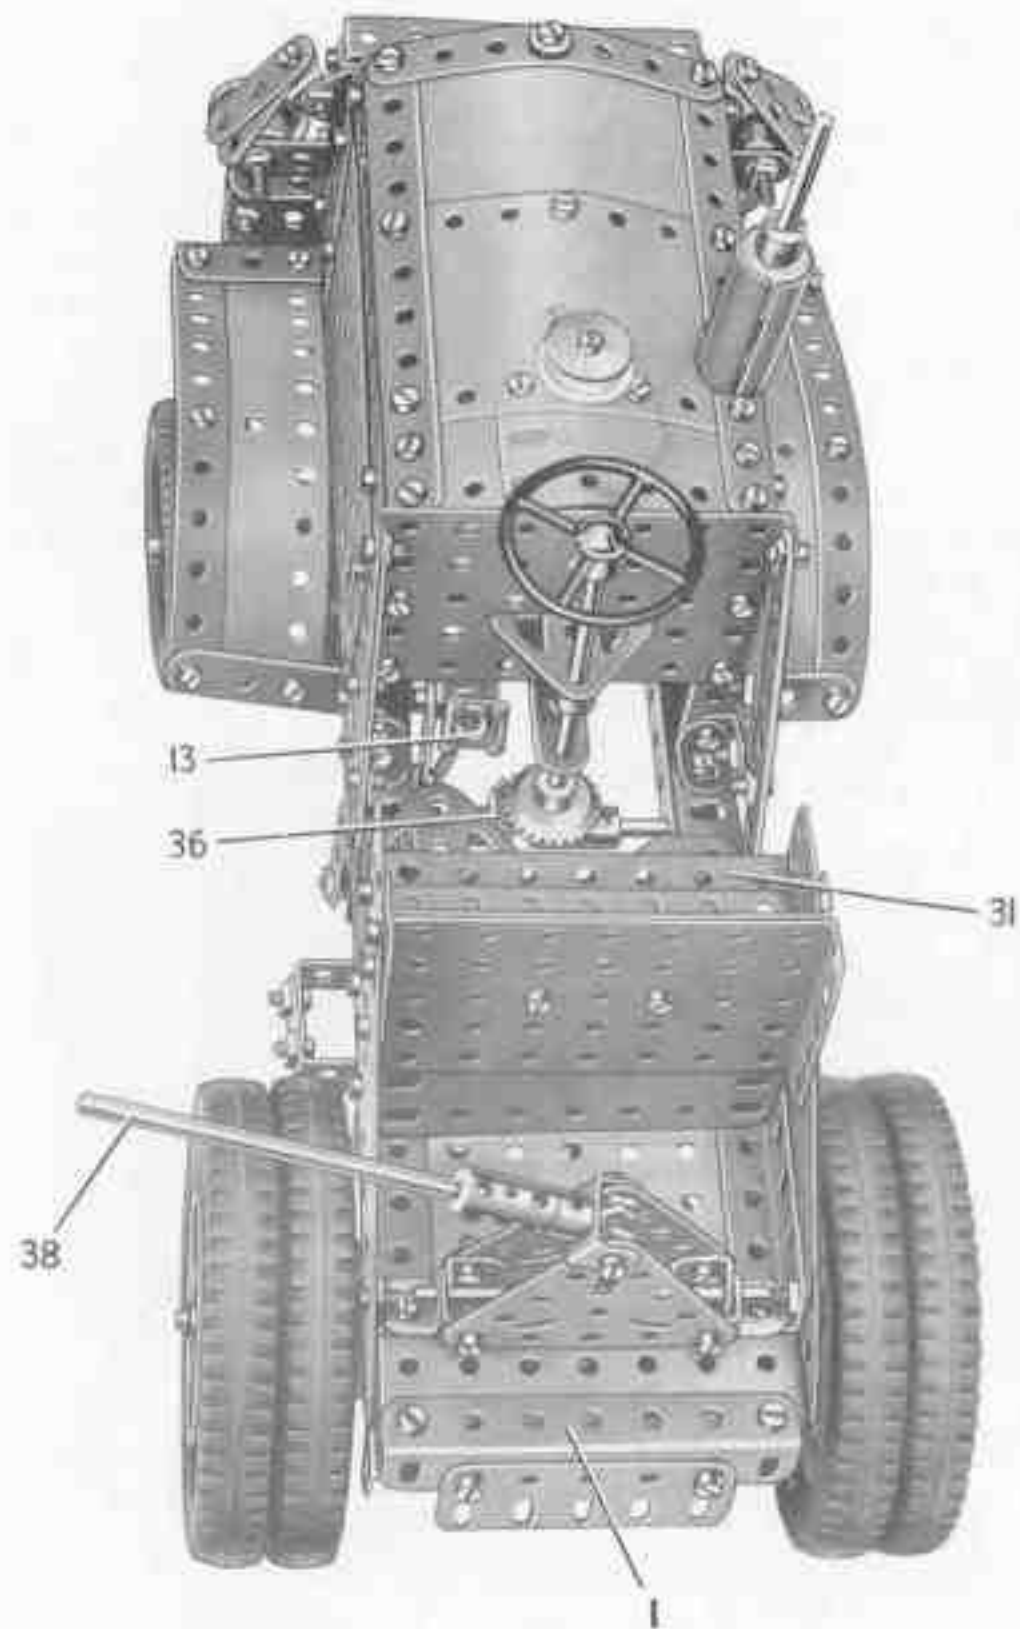
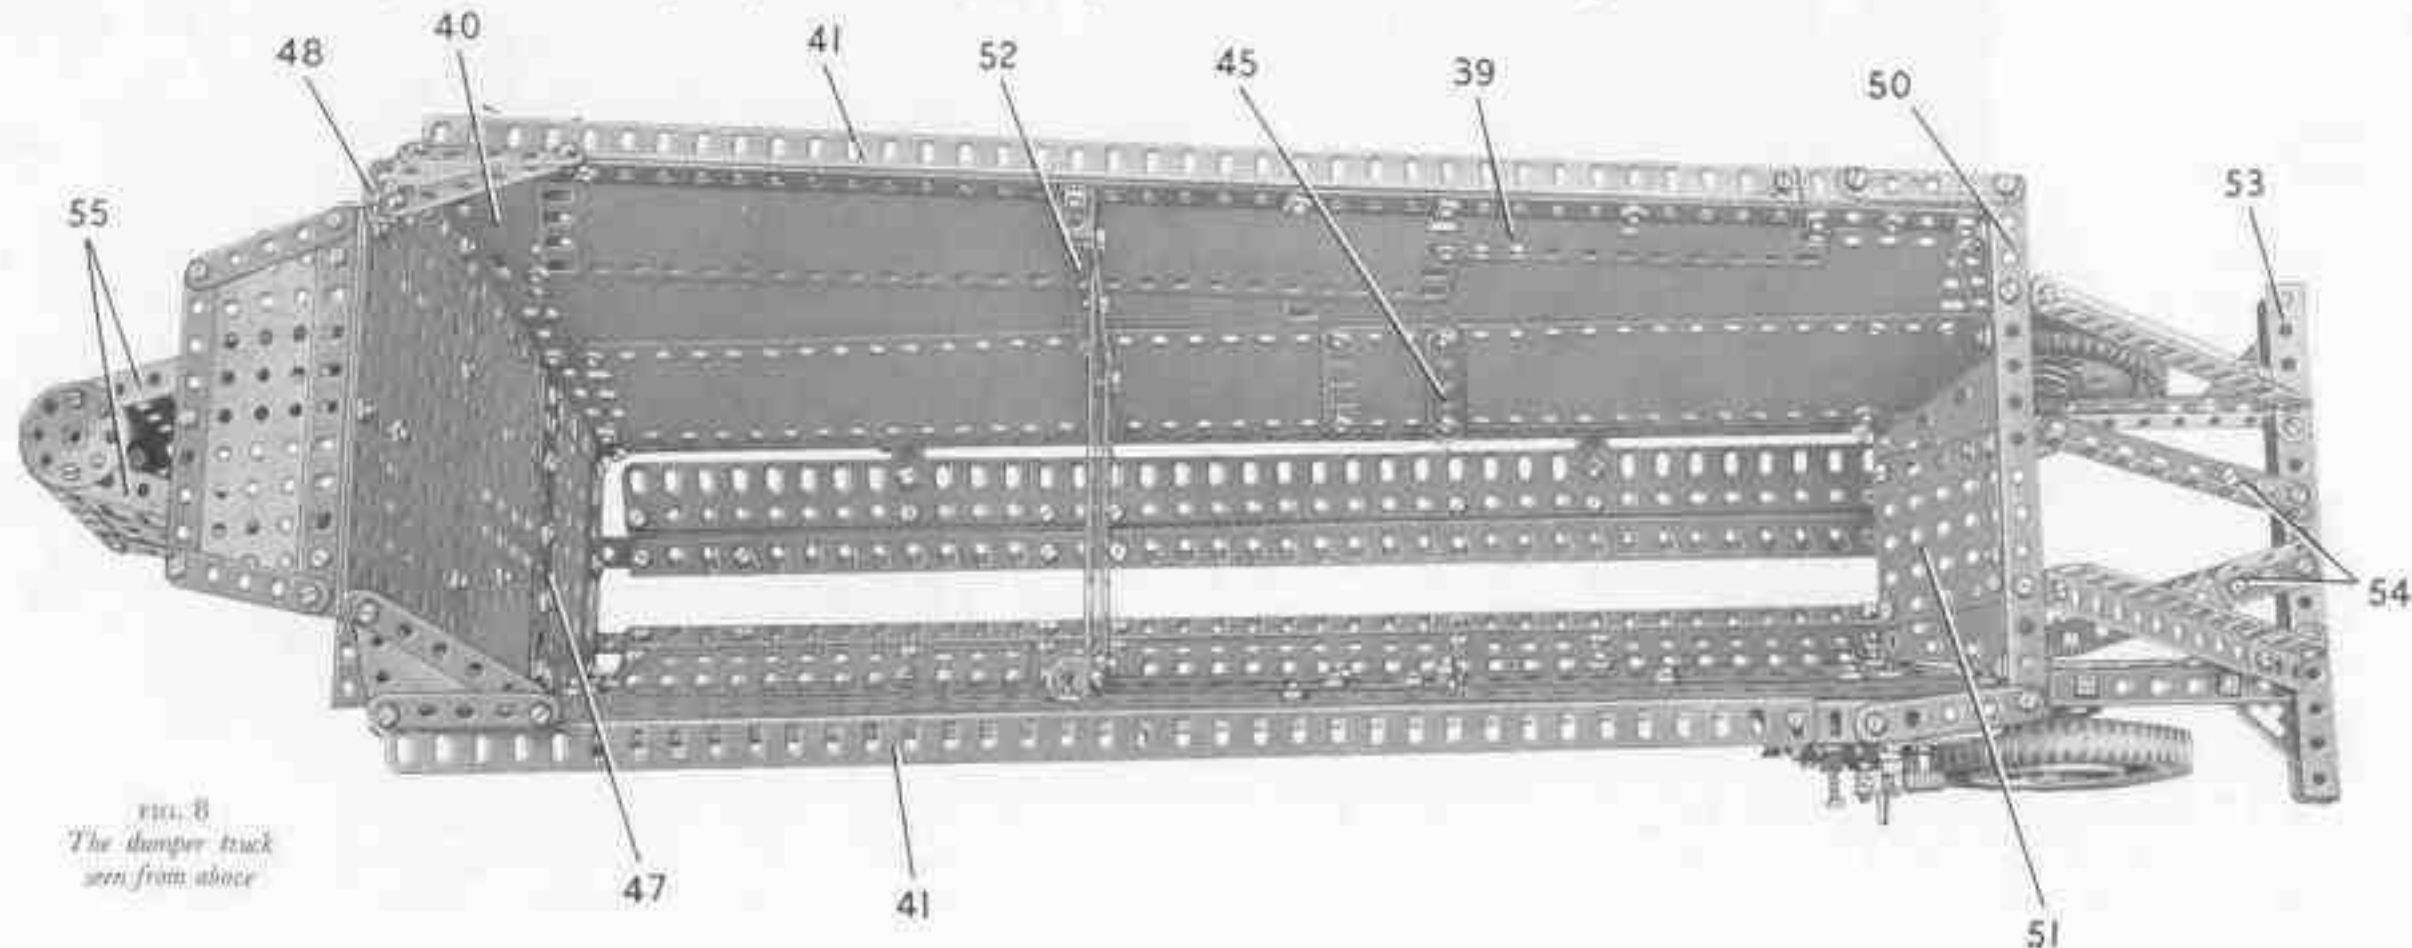

FIG. 5
FIG. 8
The clutch is disengaged by pressing a pedal (13) (Fig. 5), formed by a Slide Piece on a  $4''$  Rod. A Collar is fixed on this Rod immediately below the Slide Piece, and a  $1\frac{1}{2}''$  Strip (14)
The top of the bonnet is filled in by two  $3\frac{1}{2}$ "  $\times$   $2\frac{1}{2}$ " Flexible Plates and two  $2\frac{1}{2}$ "  $\times$   $1\frac{1}{2}$ " Flexible Plates edged by Strips (Fig. 5). The Plates are curved slightly and the assembly is attached to the sides of the bonnet by Obtuse Angle Brackets. A  $\frac{1}{2}$ " Flanged Wheel, capped by a  $\frac{1}{2}$ " Washer, is fixed to the top by means of a  $\frac{1}{2}$ " Bolt.
The driver's seat is formed by two 3½" x 2½" Flanged Plates placed back to back and extended by a 3½" x 2½" Flexible Plate (see Fig. 5). A 3" x 1½" Flat Plate and a 3½" x 2½" Triangular Flexible Plate are bolted to each side as shown (Fig. 2), and these parts are fastened to 3½" Angle Girders fixed to the chassis. A 3½" Angle Girder (31) (Fig. 5) is connected to the Flat Plates by Angle Brackets, and a 3½" Flat Girder behind Girder (31) is supported by a 1½" Angle Girder bolted to the Flanged Plates.
The steering column is a 4½" Rod supported in a Trunnion and a 1" x 1" Angle Bracket bolted to the back of the bonnet (Fig. 5). The Rod carries a ½" Bevel Gear, and its lower end enters the centre hole of a Coupling mounted
**The Coupling Pivot for the Dumper (Fig. 5)**
### Construction of the Dumper: The Body (Figs. 8 and 9)
Each side of the dumper body is formed with three  $12\frac{1}{2}'' \times 2\frac{1}{4}''$  Strip Plates, two  $9\frac{1}{2}'' \times 2\frac{1}{4}''$  Strip Plates, a  $5\frac{1}{2}'' \times 1\frac{1}{4}''$  Flexible Plate (39) (Fig. 8) and a  $3\frac{1}{2}'' \times 2''$  Triangular Flexible Plate (40). These Plates are bolted together as shown in Figs. 8 and 9, and are edged along the top by a girder (41), made from an  $18\frac{1}{2}''$  Angle Girder and a  $3''$  Angle Girder. A girder (42), made from a  $5\frac{1}{2}''$  Angle Girder and a  $2''$  Angle Girder, is bolted along the front edge of each side and is connected to a  $24\frac{1}{2}''$  Angle Girder (43) by an Obtuse Angle Bracket. The side is strengthened by two  $5\frac{1}{2}''$  Strips (44), a  $3''$  Strip (45) and a built-up strip (46), the lower ends of these Strips being bolted to the Girder (43). The strip (46) consists of a  $5\frac{1}{2}''$  and a  $3''$  Strip.
The front ends of the Girders (55) are connected by a U-section Curved Plate and two Bush Wheels, as shown in Figs. 8 and 9. The Rod (38) (see Fig. 5) of the motor unit passes through the Bush Wheels to form the coupling between the motor and the dumper.
#### The Dumper Doors and Operating Mechanism (Figs. 8, 9 and 10)
The floor of the dumper takes the form of two opening doors each made from two  $12\frac{1}{2}$ " Flat Girders, two  $7\frac{1}{2}$ " Flat Girders and an  $18\frac{1}{2}$ " Angle Girder, arranged as shown in Figs. 8 and 9. Two  $1" \times \frac{1}{2}"$  Angle Brackets are bolted to each door, and a bolt is fitted with a nut and then is passed through each Angle Bracket. Two Collars (57) are screwed tightly on to the bolts and then an  $11\frac{1}{2}"$  Rod is pushed through them. The Rods are supported in Handrail Supports